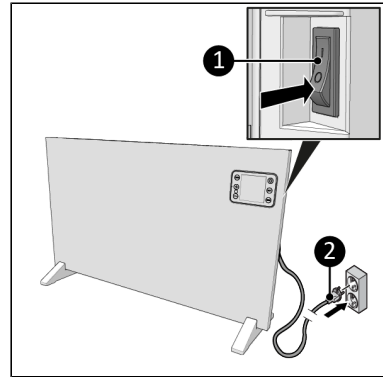

Figure 31.
2. Make sure the ON/OFF switch is in the OFF position (Figure 31, pos. 1).
3. Place the power plug (Figure 31, pos. 2) into an earthed wall socket that is easily accessible. Use an earthed wall socket with a minimum power of 2500 Watt.